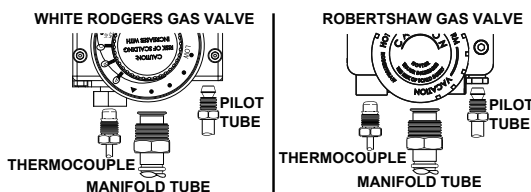

FIGURE 22.
6. Disconnect the thermocouple (right-hand thread), pilot tube, the igniter wire from the igniter button, the two connectors attached to the thermal switch, and manifold tube at the gas control valve/thermostat. (Figures 22 & 23.) NOTE: L.P. Gas systems use reverse (left-hand) threads on the manifold tube.
5. Disconnect the igniter wire from the igniter. **NOTE:** There are two types of igniters. If you have the square igniter, slide the igniter bracket backwards away from the gas valve to remove it. If you have the round igniter, first remove the igniter from the bracket by depressing front and rear holding tabs and lift. Next remove igniter bracket from the gas valve. Disconnect the thermocouple (right-hand threads), pilot tube, and manifold tube at the gas control valve/thermostat (Figure 22). **NOTE:** L.P. gas systems use reverse (left-hand) threads on the manifold tube.